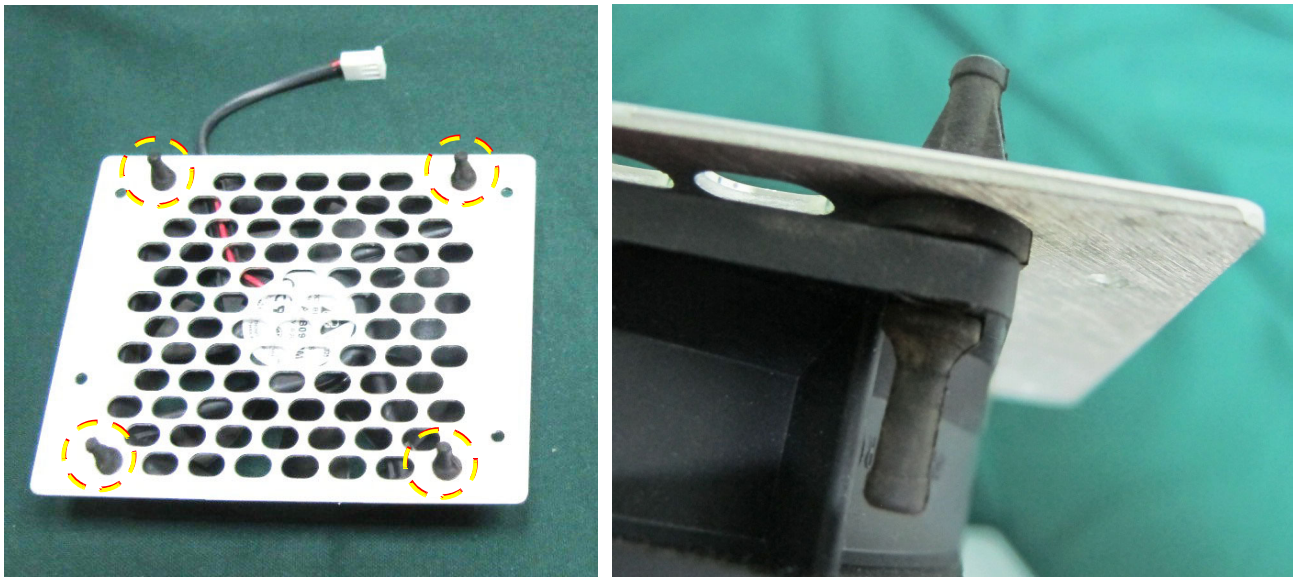

Figure 8-205 Flexible Rubber Holders - Cut and Remove
- 4.) To remove the fan from its base, stretch one of the flexible rubber securing holders (grommets) and cut it. Then pull it away from the fan's base to remove it - see Figure 8-205 below
- 1.) From the underside of the fan, thread the rubber holder through the aperture on the fan and pass the rubber holder through the aperture on the fan base - Figure 8-205.